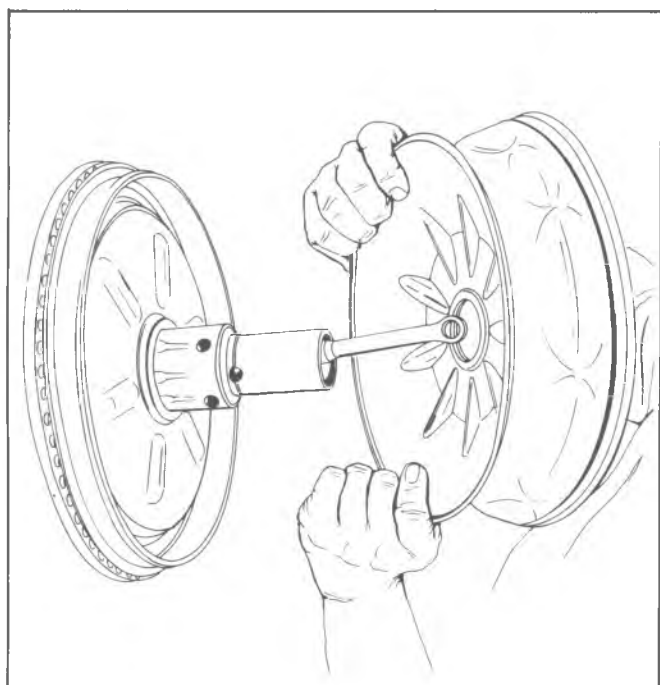

Fig. 5-8A--Installing Primary Support Plate and Diaphragm Assembly
23. Fold the primary diaphragm away from the O.D. of the primary support plate and place the primary support plate and diaphragm assembly over the power piston and push down until it bottoms (fig. 5-8A).